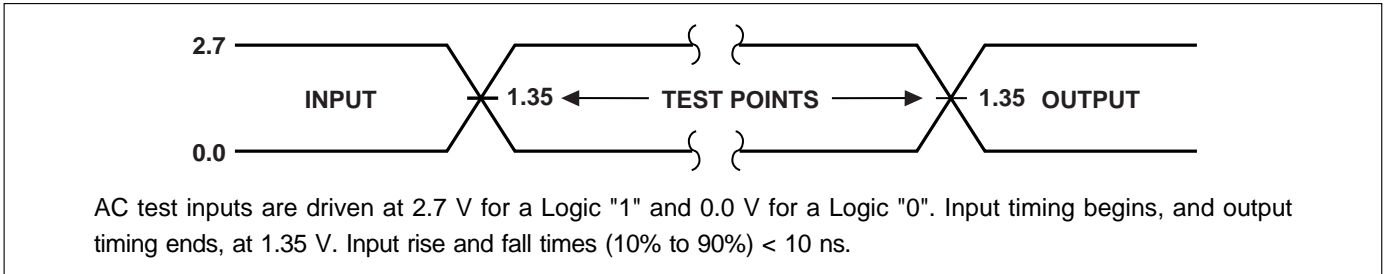

Fig. 7 Transient Input/Output Reference Waveform for Vcc = 2.7 to 3.6 V
1. See AC Input/Output Reference Waveform (Fig. 7 through Fig. 9) for maximum allowable input slew rate.